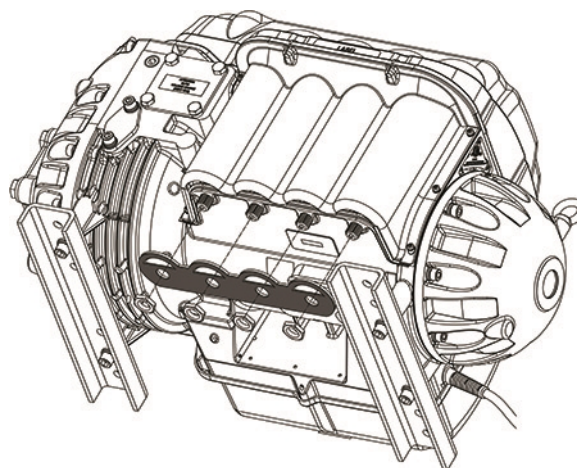

Figure 1 – Relief Membrane
7. Using an appropriately-rated voltage meter, check the DC Bus Bars for DC voltage level. If the voltage is above 30 volts direct current (VDC), wait five (5) minutes and recheck until voltage is below 30 VDC. Refer to Figure 1 - DC Bus Voltage Test Points.